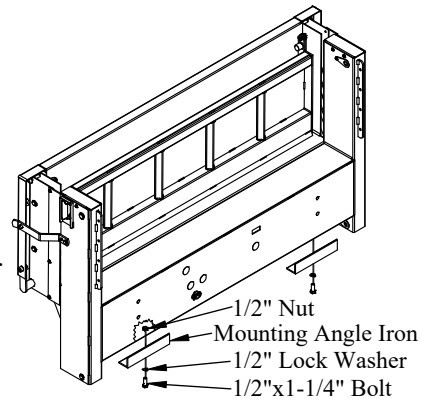

Figure 20: Mounting angle iron location.
- 1. Install** the two (2) mounting angle irons to the bottom of the liftgate (Figure 20).